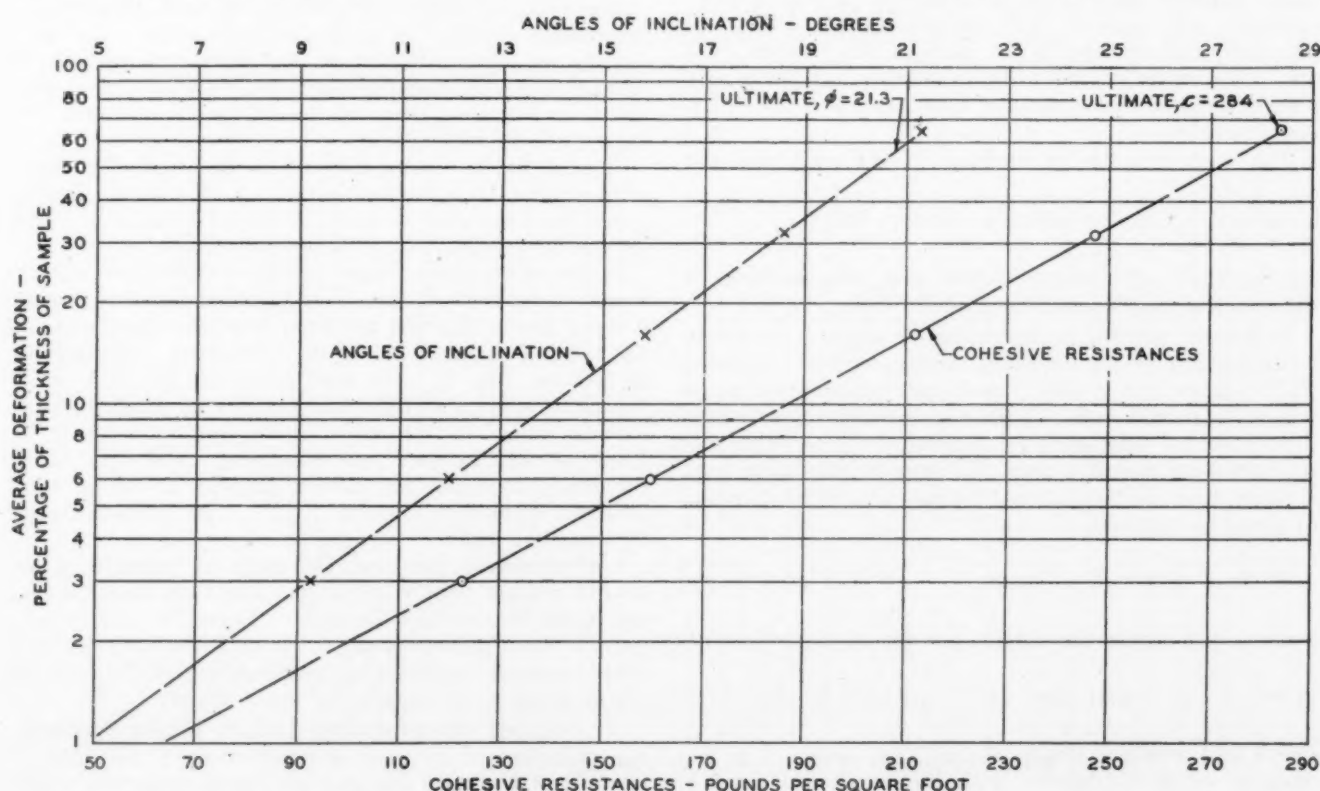
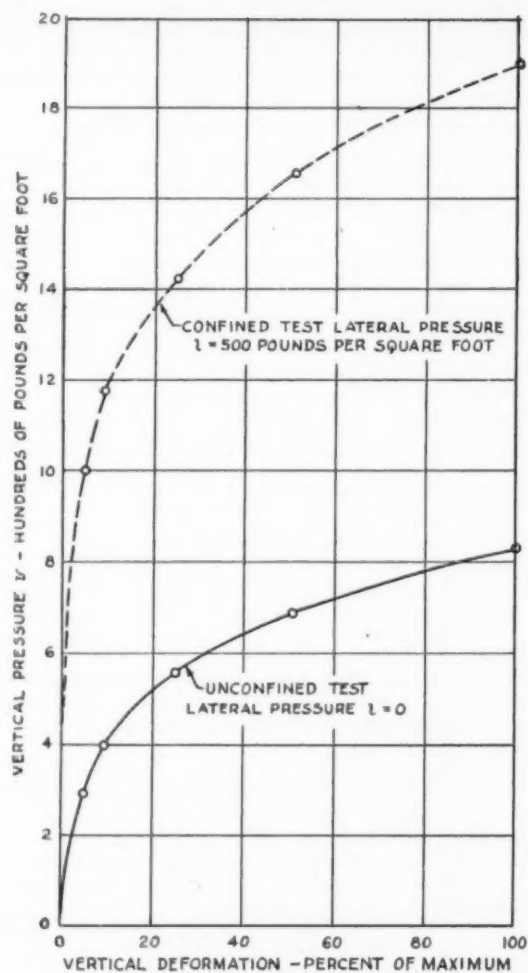
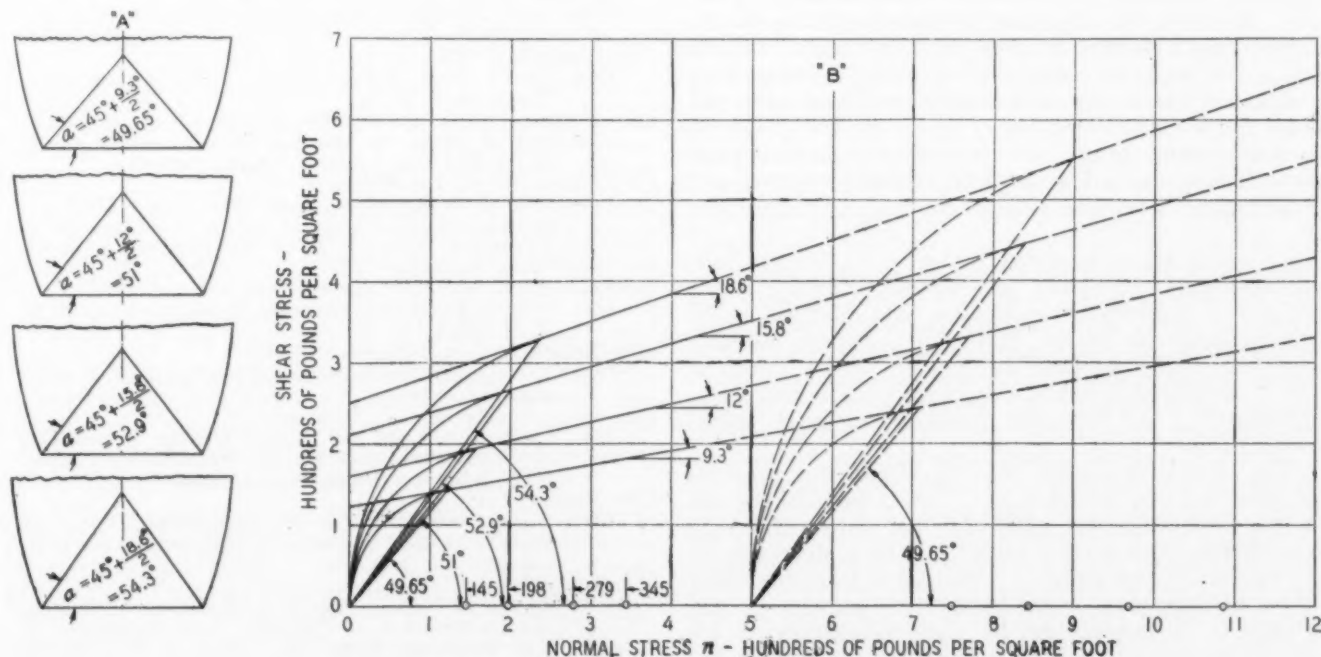

Fig. 1.—Relation of Sample Deformation to Shear Constants Obtained in Shear Tests.
Fig. 3.—Stress-Strain Relation for Cylinder Test.
Fig. 4.—Graphical Representation of Stresses in Cylinder Before Failure.
The article in the May issue called attention to the desirability of expressing shear test results by means of stress-strain curves; and typical examples were shown in Figs. 20 and 21, page 37. Similar material has been reported in the October Bulletin, A. S. T. M. (5); and an illustration from that report is reproduced here as Fig. 1.
If it were possible to determine the angle  $a$  accurately by inspection of the ruptured sample, and if  $\phi$  equaled 21.3 degrees and  $c$ , 284 pounds per square foot as in Fig. 1,  $a$  should equal 55.65 degrees and according to the theoretical relation,  $v = 2c \tan a$ , the ultimate vertical pressure  $v$  should equal 832 pounds per square foot.
TABLE I—ASSUMED VALUES OF  $a$  FOR DIFFERENT VERTICAL PRESSURES—FULL LINE FIGURE 3.
If the stress-strain relation of the cylinder were such as shown by the full line, Fig. 3, and if by some means it were found that the angles  $a$  less than maximum  $a$ , for the  $v$ 's at percents of the maximum indicated by the circles, Fig. 3, were such as shown in Table 1, it would be possible to construct a series of diagrams in a manner similar to that shown by the solid lines in Fig. 4. These would disclose  $c'$  and  $\phi'$  values. And from such, the shear constant-deformation diagram could be constructed similar to that in Fig. 1, but with different deformation scale.
In the same manner any number of circles representing stress produced by the values of  $v$ , broken line curve Fig. 3, may be drawn. In all cases their radii equal  $\frac{v - l}{2}$  and their centers are  $\frac{v + l}{2}$  distance from the
origin; see broken lines, Fig. 4.